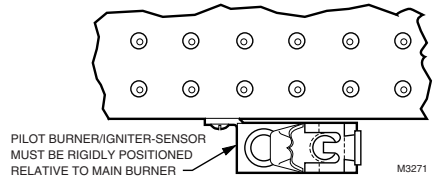

Fig. 1. Mount pilot burner/igniter-sensor on main burner.
2. Mount the pilot burner/igniter-sensor on main burner. Mounting surfaces other than the main burner may shift, bend, or warp as furnace expands and contracts while operating. See Fig. 1.